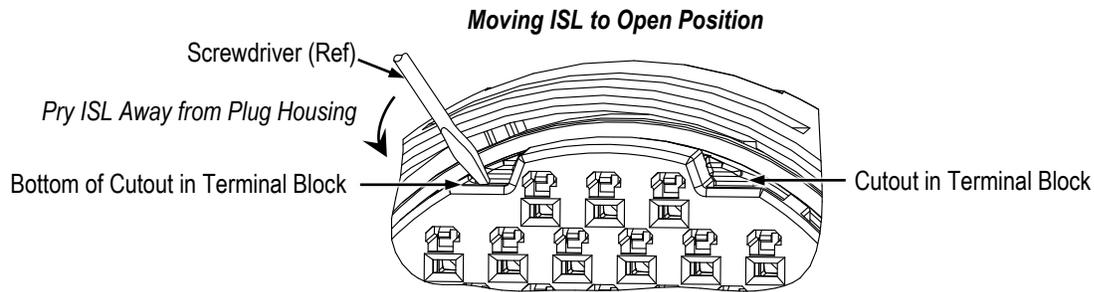

Figure 10
- b. Gently pry the perimeter of the ISL away from the plug housing until the ISL is in the open position. There will be an audible click. See Figure 10. If necessary, alternate between the two cutouts to move the ISL to the open position.
If the terminal is not removing easily, verify that the ISL is in the open position as shown in Figure 10.